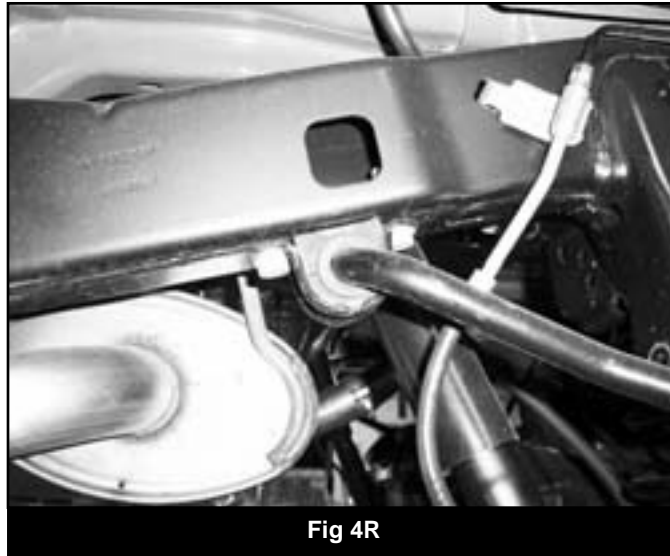

Fig 4R
13. Disconnect the sway bar from the frame and remove it from the vehicle. Retain the sway bar, bushings, and hardware (Fig 4R).